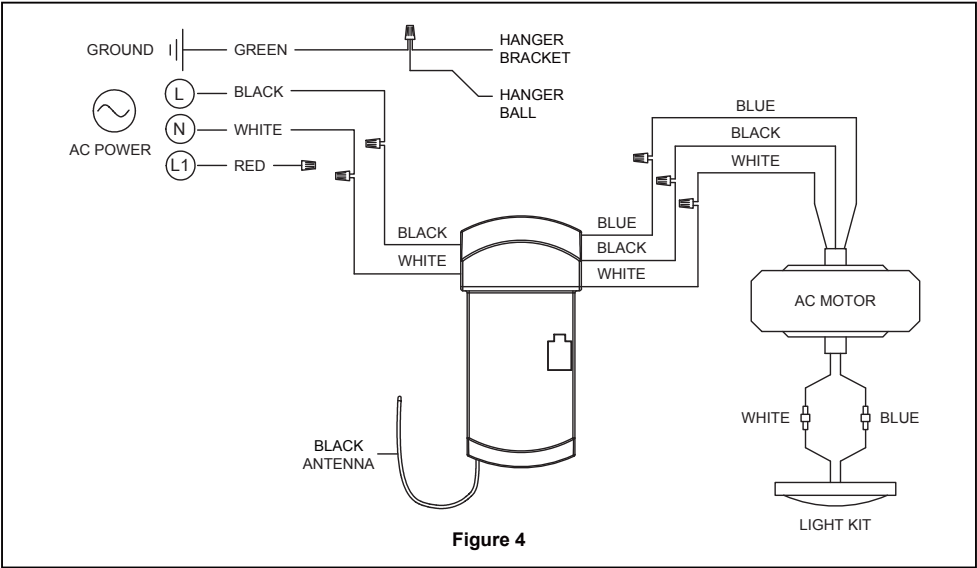

Figure 4
4. Lift away the motor coupler washer and upper housing cover from the motor assembly and set aside. (Figure 4)
- ☐ 4. Thread downrod into the downrod support on top of the motor. Install the clevis pin by aligning the holes in the downrod support with holes in the downrod. Secure clevis pin with hairpin clip. Install and tighten the two previously removed set screws with locking nuts in the downrod support. (Figure 4)
- ☐ 2. Carefully lift the fan and seat the downrod/hanger ball assembly onto the hanger bracket that was just attached to the outlet box. Be sure the groove in the ball is lined up with tab on the hanger bracket. (Figure 4) This fan is intended for standard and angled mounting options only. Closemount and flushmount options are not available. For angled ceilings, note the angle can be no more than 19°.
3. Connect green wires from hanger bracket, hanger ball and ground from supply using wire connector. Connect black wire from receiver unit marked "AC IN L" to black supply wire using wire connector. Connect white wire from receiver unit marked "AC IN N" to white supply wire using wire connector. Connect white wire from receiver unit marked "TO MOTOR N" to white wire from fan using wire connector supplied with receiver unit. Connect black wire from receiver unit marked "TO MOTOR L" to black wire from fan using wire connector supplied with receiver unit. Lastly, connect blue wire from receiver unit to the blue fan light wire using wire connector supplied with receiver unit. (Figure 4)
- ☐ 4. Connect the 2 single pin connectors from the LED assembly to the 2 single pin connectors from motor assembly. (Figure 4)
- ☐ 4. To set the remote code in the same positions as the receiver, use a small screwdriver or ball point pen (neither included) to slide dip switches firmly up or down. (Figure 4)